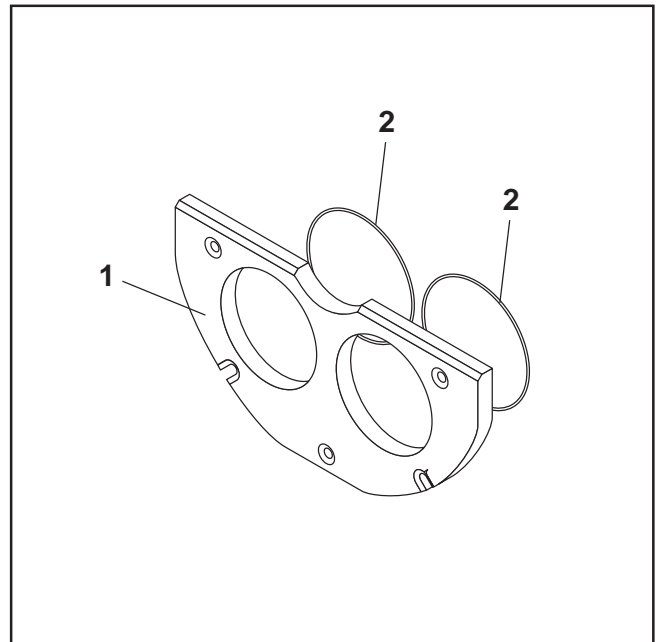

FIG.55
- Using grease assemble two new OR rings (FIG.55-REF.2) (the grease holds the two rings in position), without excessively greasing, as grease forms thickness.